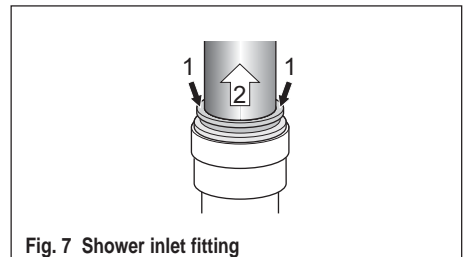

Fig. 7 Shower inlet fitting
4.5.1 The two inlet fittings of the shower are plastic push fit type. To remove inlet plug or pipe from the fitting press down on two sides of the collar as shown in fig. 7.